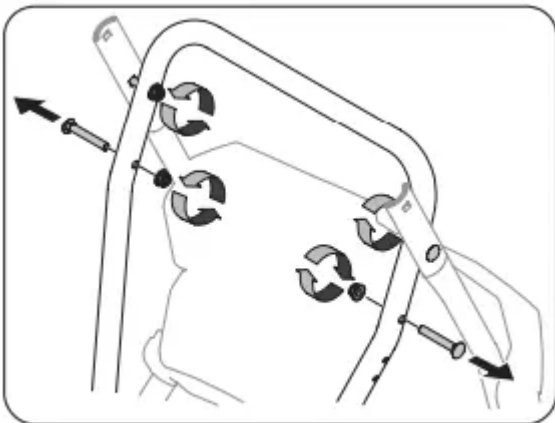
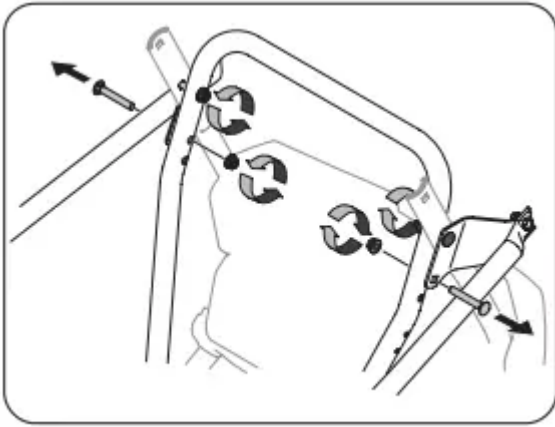

Figure 3
Figure 4
- Loosen the top two lock nuts securing the upper and lower handle and remove the two carriage screws from the lower handle and set aside. See Figure 3 or Figure 4 for units with side supports.